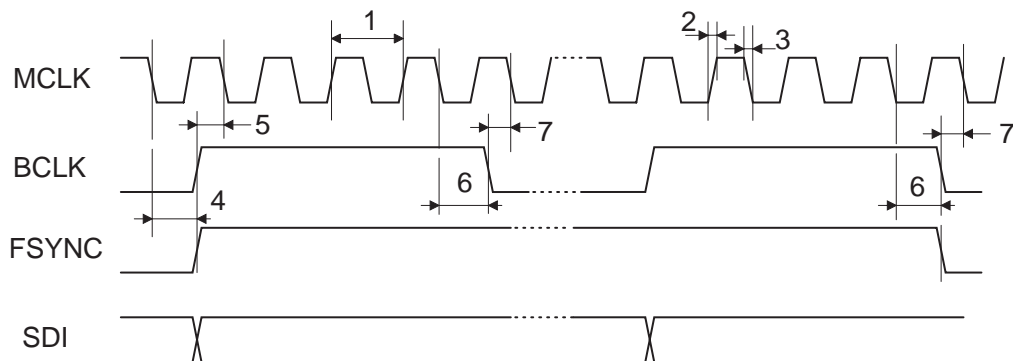

Figure 13: LFS mode, timing diagram
*see figure 13, 14 for LFS and 15, 16 for SFS